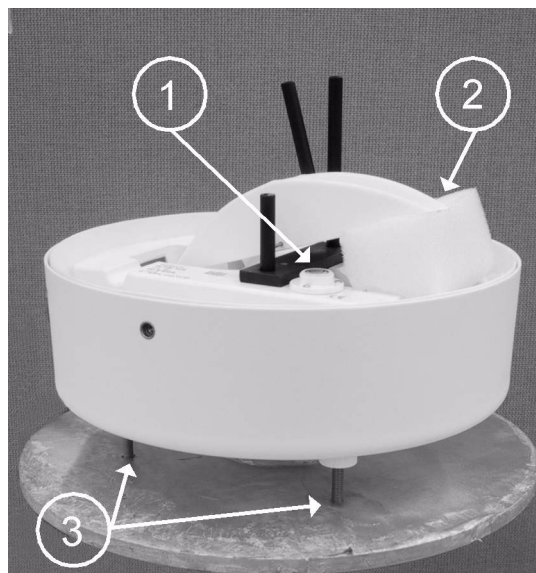

Figure 71 QMR102 Adjustment and the Foam Location
2. Remove the piece of foam (2) from under the bucket mechanism. This foam may be saved and used whenever the rain gauge is moved. See Figure 71 on page 83.
3. It is important to ensure that the rim of the rain gauge is leveled precisely. Failure to do this will result in a systematic error. Use a spirit level (1) and adjust with the fixing screws (3). See Figure 71 on page 83.